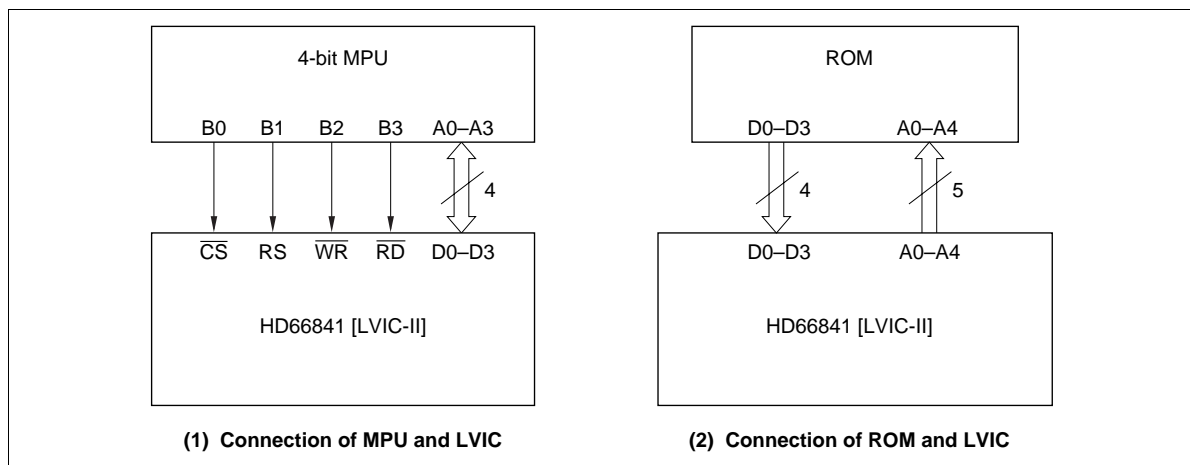

Figure 3 Connection of MPU or ROM and HD66841
Internal Register Programming Method: In the internal register programming method, an MPU or ROM writes data into internal registers to control functions. Figure 3 illustrates the connections of MPU or ROM and the LVIC. Figure 2 (1) is an example of using a 4-bit microprocessor, but since the HD66841 MPU bus is compatible with the 4-MHz 80-family controller bus, it can also be connected directly with the bus of host MPU.